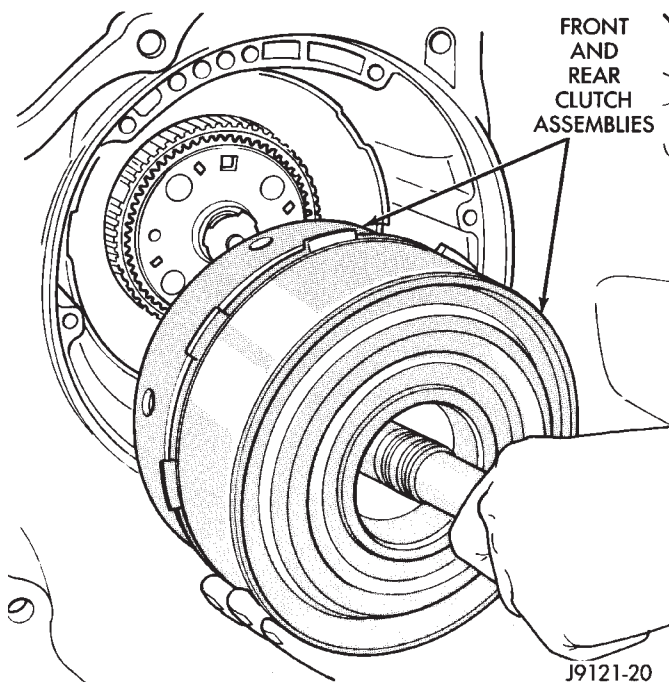

Fig. 24 Removing/Installing Front And Rear Clutch Assemblies—46RH
(24) Remove front and rear clutch assemblies as a unit (Fig. 24). Set assemblies aside for disassembly and inspection after removal.